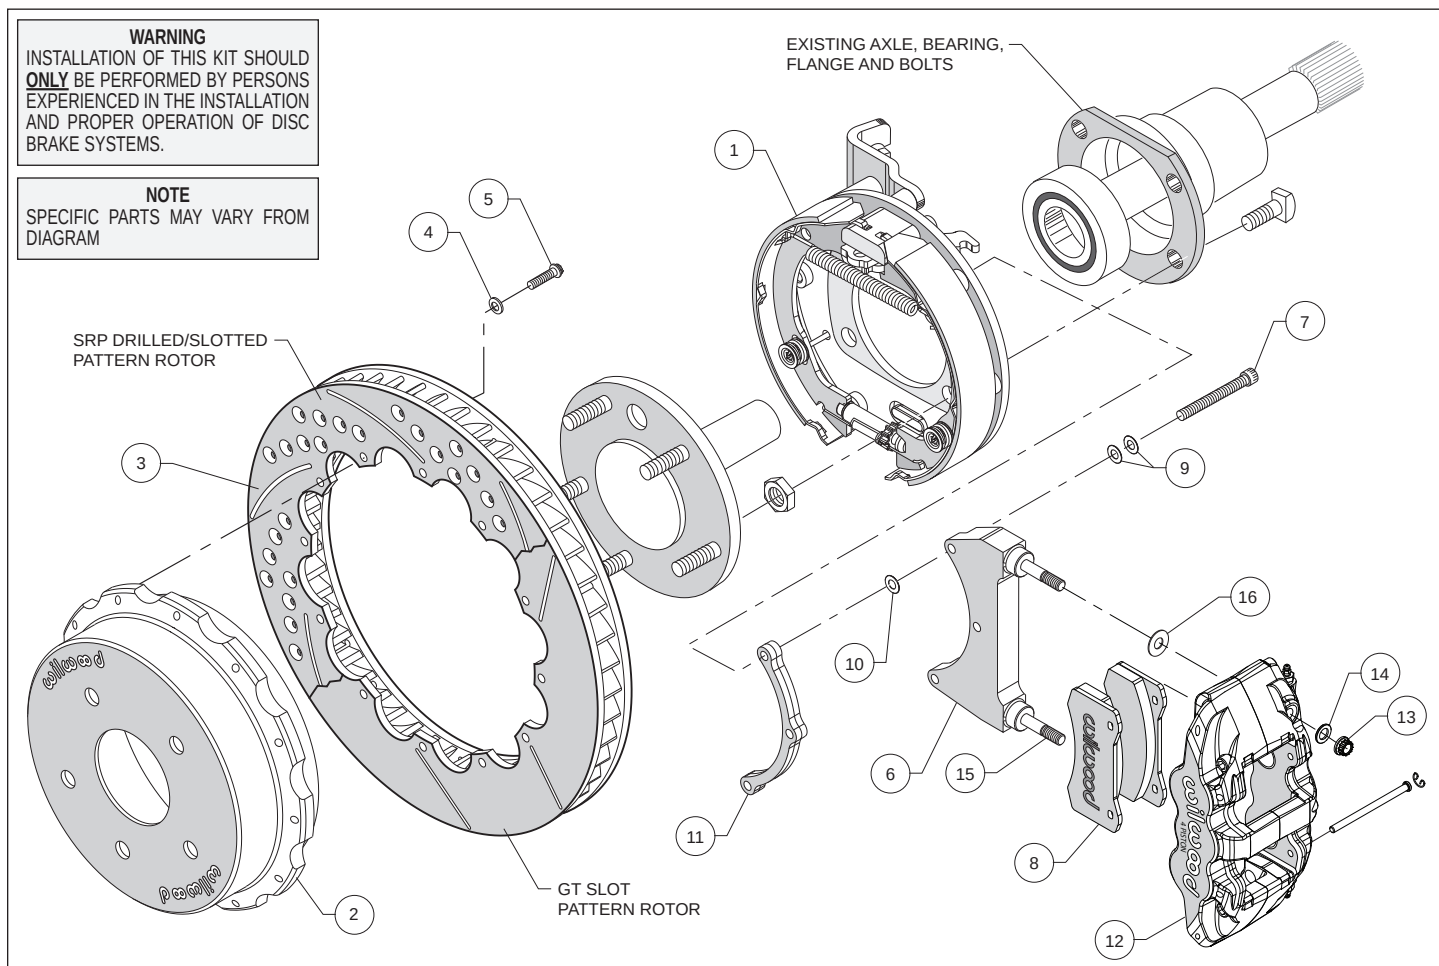

Figure 1. Typical Installation Configuration
- NOTE:** Please reference the caution statement at the beginning of the assembly instructions. The caliper mounting bracket assembly (6) should be installed first with clean, dry threads on the mounting bolts (7). Install the bracket from the rear side of the bracket kit assembly (1) by sliding bolt (7) through two flat washers (9), bracket (6), shim washer (10) and finally through the spacer (11), see Figure 1. **NOTE:** End of bolt should not exceed inside face of insert. The bracket must tighten squarely against the back side of the bracket kit assembly (1). Inspect for interference from casting irregularities, machining ridges, burrs, etc. Use one thin shim (10) between the bracket (6) and spacer (11) during initial trial fitting.
- Lubricate caliper mounting studs and nuts with lightweight oil. Install one washer (16) over each pre-installed stud (15) on the radial mount bracket (6). Slide the caliper (12) in place over the studs and rotor, then install the washer (14) and lock nut (13) to hold the caliper in place. The caliper bleed screws should be pointing up. Snug the lock nuts (13) and check that the rotor (3) is centered in the caliper (12). Add or subtract .015" shims (10) as necessary between the caliper mounting bracket (6) and the spacer (11) to center the caliper (12).
- Remove the two pad retaining pins from the caliper (12) by carefully popping out the pin retaining clips and sliding out the pins. Insert the brake pads (8) into the caliper from the bottom, Figure 1. With the friction material facing the rotor, secure the brake pads in place with the pad retaining pins and clips. Reinstall the caliper onto the caliper mounting bracket and temporarily tighten the lock nuts. Check that the top of the brake pad is flush with the outside diameter of the rotor. If not, adjust by adding or subtracting shims (16) between the caliper and the bracket.
- Adjust the parking brake shoes outward (using a drum shoe adjustment tool available at your local auto parts store) while spinning the hat (2) until a slight drag is felt against the hat/drum. Remove the lug nuts that were holding the hat/rotor in place. Install the wheel and lug nuts. Check to see that the wheel rotates freely without interference.
- Once all clearances have been checked, remove the wheel, caliper, hat/rotor from the bracket kit assembly (1). Secure the caliper mounting bracket (6) to the bracket kit assembly (1) using red *Loctite*® 271. Torque bolts (7) to 180 in-lb. Reinstall the hat/rotor assembly and again use lug nuts to hold it in place. Reinstall the caliper, torque the caliper nuts (13) to 47 ft-lb.
- NOTE:** Clevis and cable kits which attach to the parking brake assembly are not included in the Wilwood parking brake kit. Wilwood offers a generic style parking brake cable kit, P/N 330-9371 for this application which can be ordered separately from your local Wilwood dealer or by calling Wilwood customer service at (805) 388-1188.